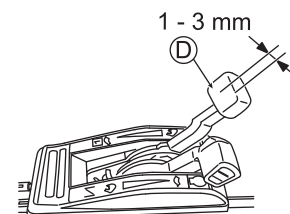

Fig. 27
Adjust the play of Gearshift lever (D) to 1 - 3 mm as shown in Fig. 27.